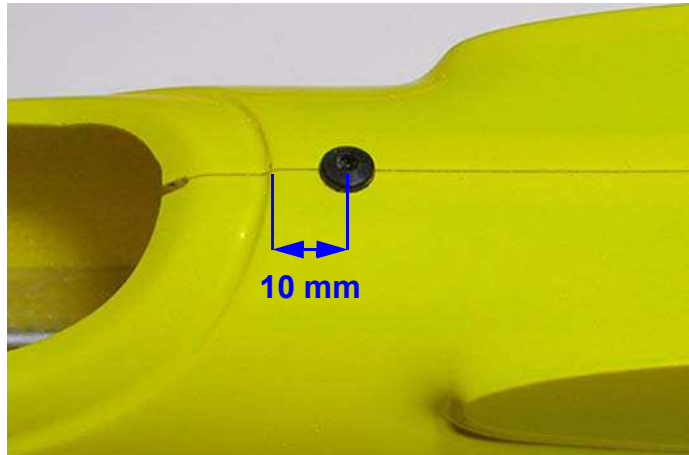

Fig.109: Antenna's hole position.
- Drill **3 mm** diameter hole on the fuselage in the position shown in figure 109;